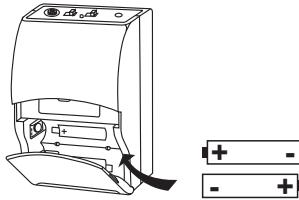

FIGURE 8
2. Pull up on the OPEN side of the battery compartment cover, flip it open, as shown in Figure 8.
3. Insert fresh 1.5V AAA alkaline battery into the battery compartment as shown in Figure 8. TWO fully charged 1.2V NiCad battery should provide 8 hours of performance time. When the red LOW BATTERY light on the transmitter glows, you have 20 minutes or less of useful battery life remaining; change the battery at your first opportunity.